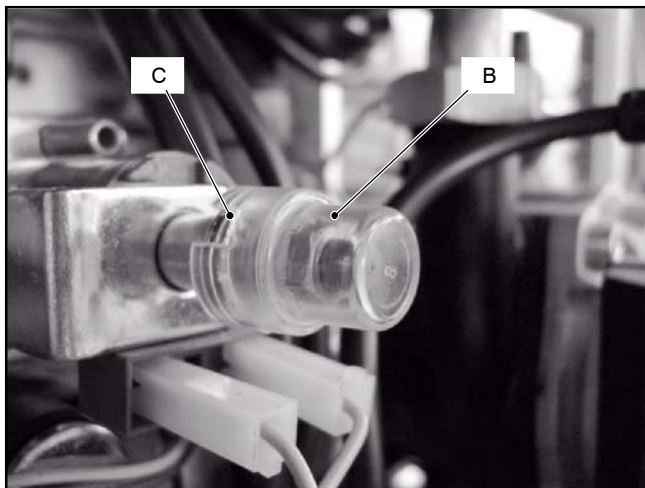

Fig. 48
- 5 Remove the protection cap B (Fig. 48) from the mechanical pressure adjustment components levering with a flat screwdriver in the slots C.